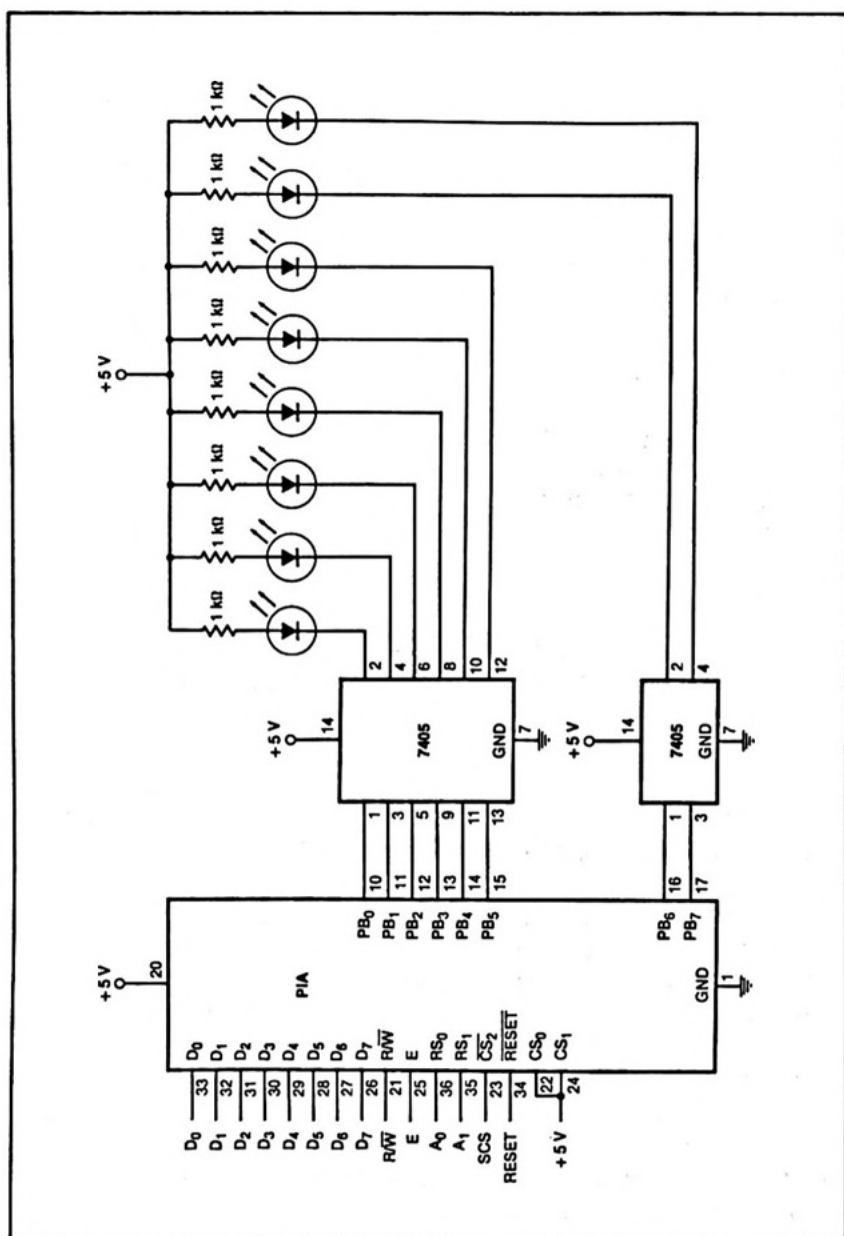

Figure 6-8
Schematic Diagram (Fig. 6-8)
Step 1 — Turn the computer power off and construct the circuit shown in Fig. 6-8. (Note: If you have saved the PIA circuit from Experiment 1, you need only to disconnect the binary input switches from port A and connect the data output LEDs to port B as shown in Fig. 6-8. All other circuit connections remain the same.)